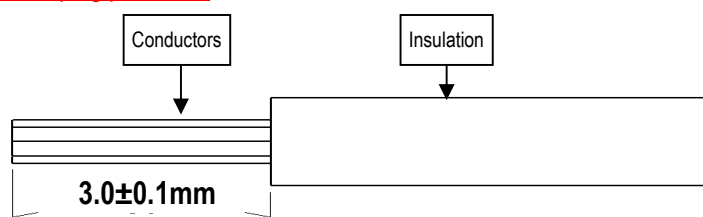

Fig.2 Wire strip
- ① Strip the insulation off by 3.0 ± 0.1 mm (see Fig.2)